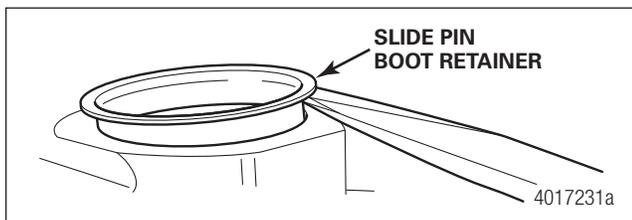

Fig. 8.8 Slide Pin Retainer
STEP 1 - Remove the slide pin boot retainer from the bushing bore. Figure. 8.8.